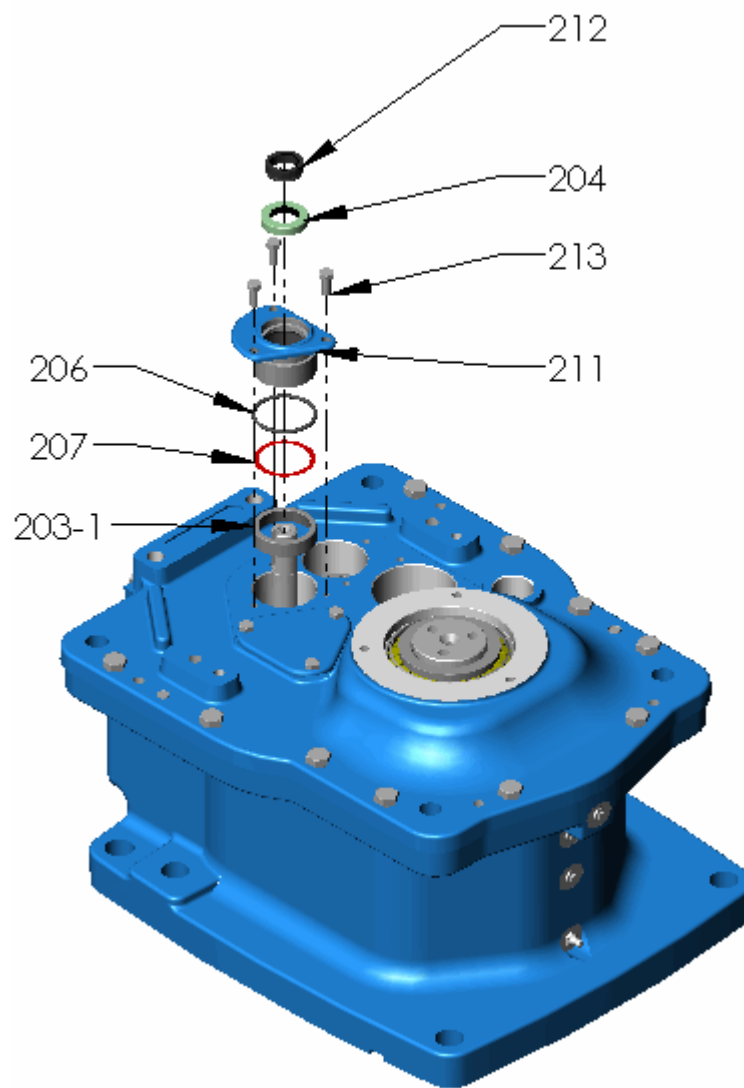

Figure 21 – Input Cap
- R. Input cap shim selection (refer Figure 21).
- (1) Put the bearing cone **[203-1]** in the case lid bore.
- (2) Put the input cap **[211]** in the bore (no o-ring is necessary at this stage).
- (3) Use hand pressure and push down on the input cap **[211]**.
- (4) Using a Dial Test Indicator (DTI), check the end float on the input shaft by lifting up on the shaft. Record this measurement as "A".
- (5) Number of shims required = $A - 0.002$ ". Select appropriate shims set **[207]**.
- (6) Insert shim set **[207]**, input cap **[211]**, and bolts **[213]**.
- (7) Torque-tighten bolts **[213]** to value given in Table 1.
- (8) Check end float. It needs to be between 0.001" and 0.003". Else remove input cap **[211]** and repeat from step 1.
- (9) Remove input cap **[211]** and shim set **[207]**.
- S. At input shaft, install following items (refer Figure 21):